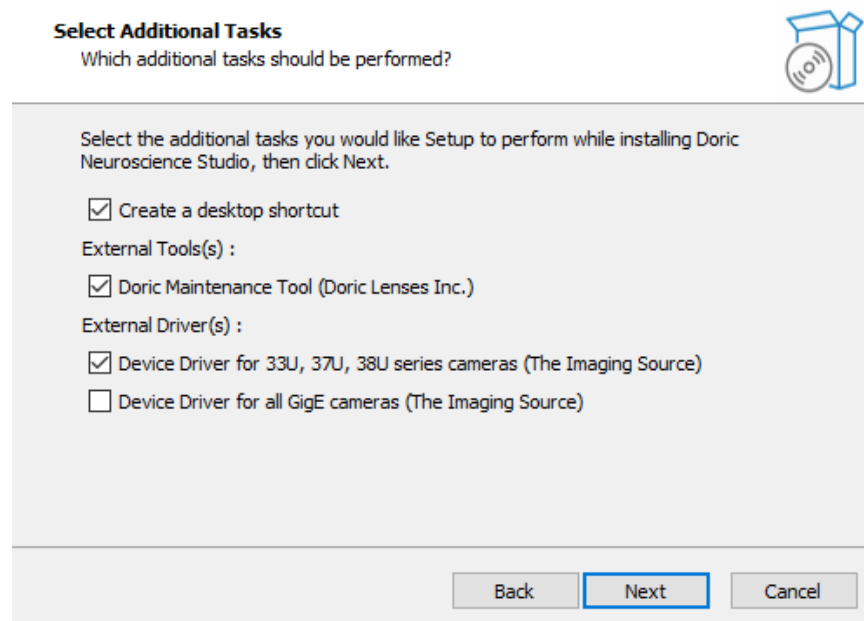

Figure 2.2: Select complementary installations
- Select **Create a desktop shortcut** if you want a a shortcut to lunch the software on your desktop (Fig. 2.2).
- Select **Doric Maintenance Tool** to install the Doric service system to update device firmware, more information about update will be provide further in this user manual. We highly recommended to make this installation and to keep the devices and software up to date (Fig. 2.2).
- Select **Device Driver for 33U, 37U, 38U series cameras** to installed the drivers for USB cameras. This is necessary mainly for **Behavior Camera** and **BPFD systems** (Fig. 2.2).
- Select Device Driver for all GigE cameras to installed the drivers for Ethernet cameras (Fig. 2.2).